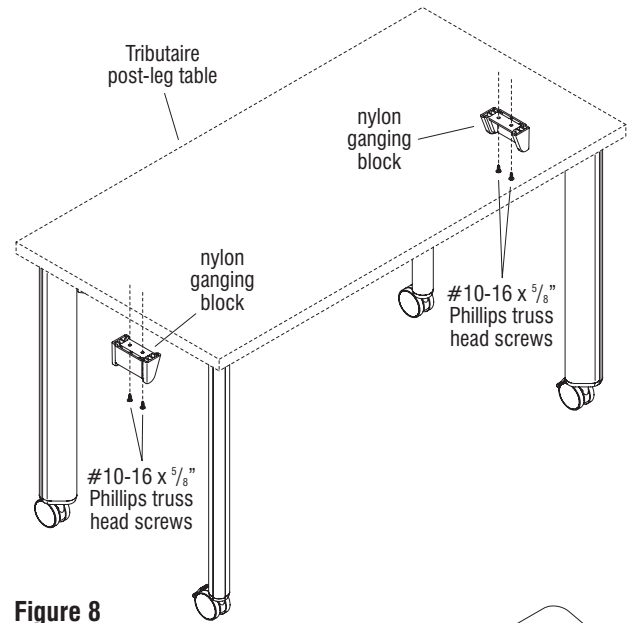

Figure 8
4. At the underside of the Tributaire post-leg table, position a nylon ganging block as illustrated, with the notched-out portion of the block facing towards the inside of the table. Align the mounting holes on the block with the mounting holes on the underside of the table and secure using two #10-16 x $\frac{5}{8}$ " Phillips truss head screws. Repeat this step to secure the second nylon ganging block to the opposite side of the table (Figure 8 & Detail I).